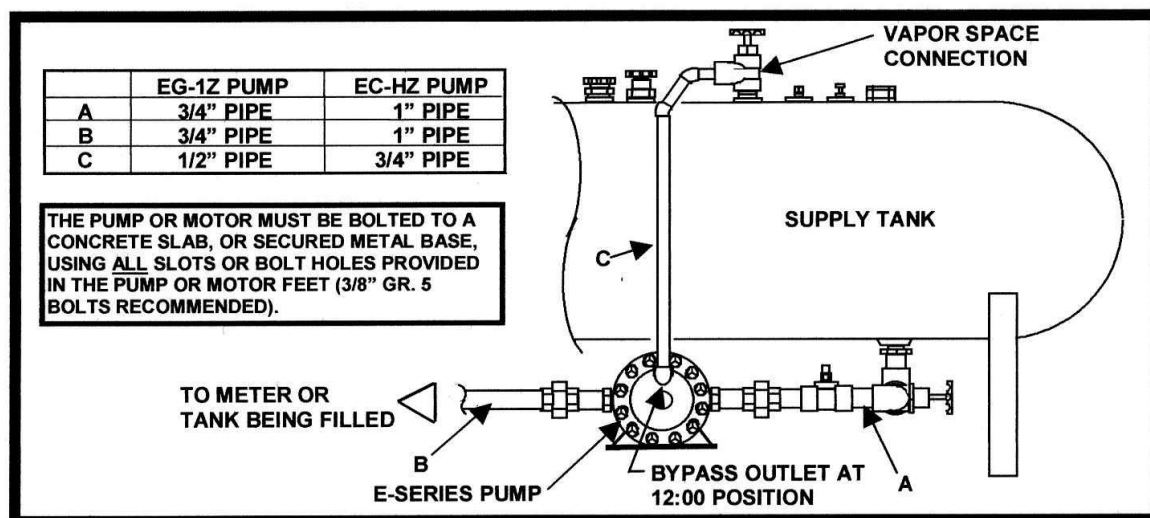

Fig. 3: GENERAL INSTALLATION OF E-SERIES LPG PUMP USING BUILT-IN BYPASS VALVE.
The installation of a small LPG pump can be made easily (Fig. 3). The small pump illustrated has a built-in strainer. If the pump requires a separate strainer, be sure that the strainer is properly placed between the storage tank and the pump inlet. A 1 1/4-in. excess flow valve is utilized in the bottom outlet of the tank, in Fig. 3, and the separate shut-off valve shown is an approved 1-in. globe, angle, or ball valve. An approved internal valve can also be utilized. For best results with both models mentioned above, item (A) is a 1-in. Sch. 80 heavy-duty steel pipe, with a 1/4-in. hydrostatic relief valve installed in a tee. Item (B) is the outlet line, which can usually be the same size pipe as the pump outlet, or identically sized standard length hose, with the appropriate hose excess flow and end valves. No bypass valve is shown in Fig. 3, because the pump has a built-in bypass valve, which is arranged to discharge through an external line. Also, no pressure equalizing line is shown, since one is usually not necessary with small LPG and NH₃ pumps. A pressure equalizing line can be used if desired, as can an external bypass valve discharging to the supply tank (these would be required for small pumps in low-pressure liquid Carbon Dioxide service). Be sure to follow all safety regulations.